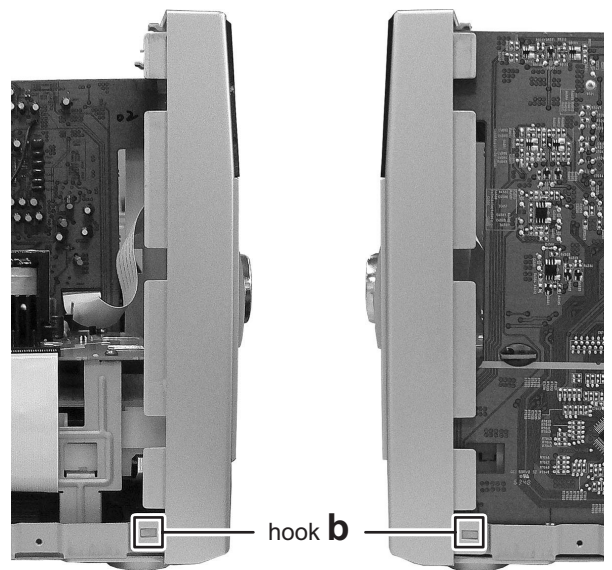

Fig.5
- (4) Disengage the hook **b** engaged both side of Front panel assembly. (See Fig.5)
### 3.2.4 Removing the CD servo board (See Fig.5 and 6)
- (1) Remove the two screws **D** attaching the CD servo board from bottom side of traverse mechanism assembly. (See Fig.5)
- (2) Remove the solder from solder part **e** of the CD servo board. (See Fig.5)
- (3) Remove the yellow wire from solder part **f** of the CD servo board. (See Fig.5)
- (4) Remove the white wire from solder part **h** of the CD servo board. (See Fig.5)
- (5) Remove the CD servo board to upper side, disengage the hook **c** to direction of the arrow 1 then turn over the CD servo board. (See Fig.5)